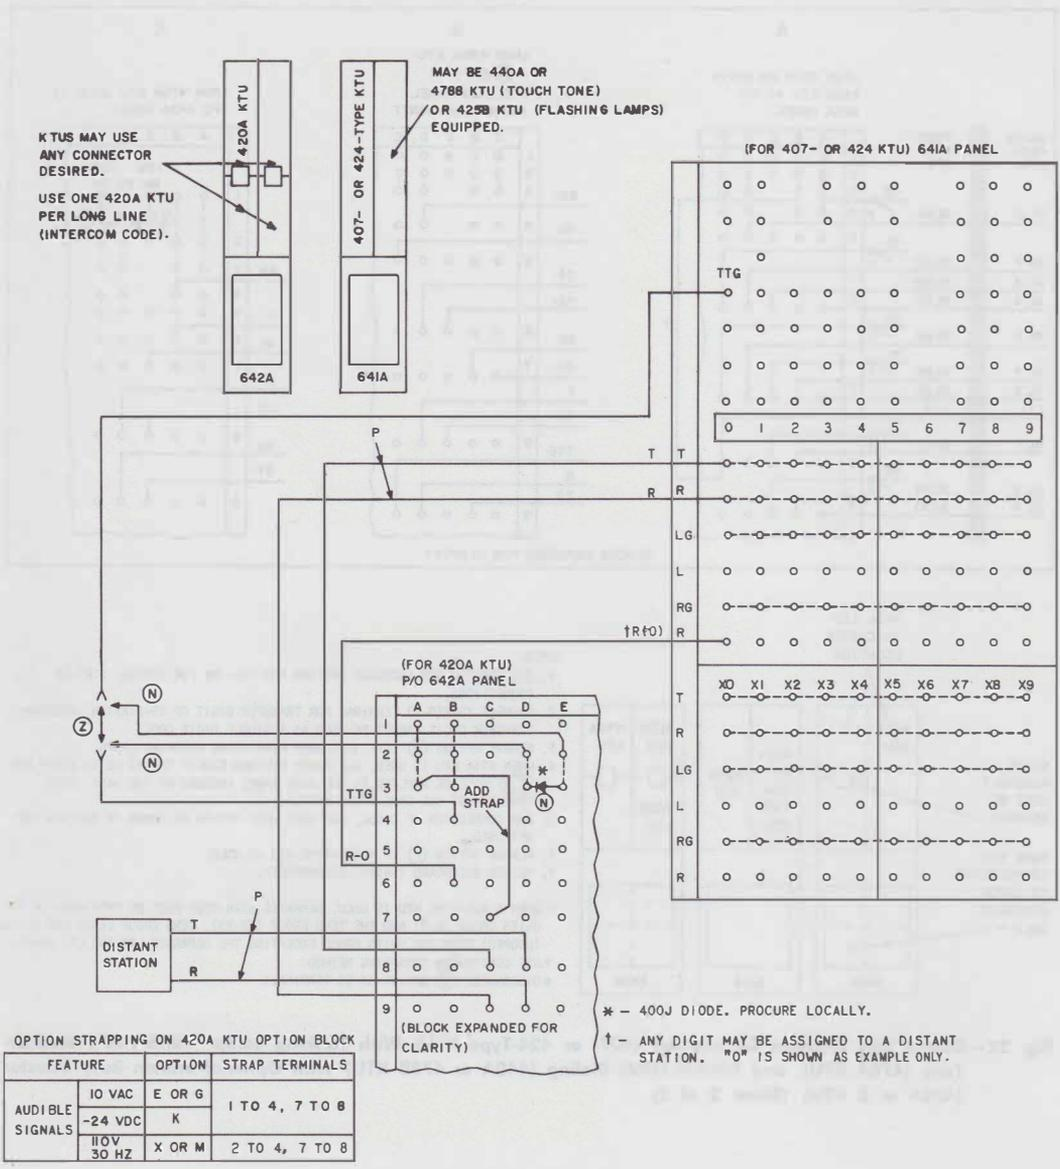

Fig. 33—Long Line (420A KTU) Option for Basic or Deluxe Dial Intercom
K. 420A KTU—Long Line Circuit (Fig. 33)